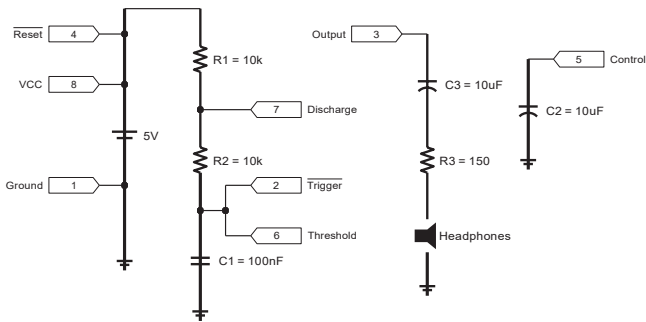
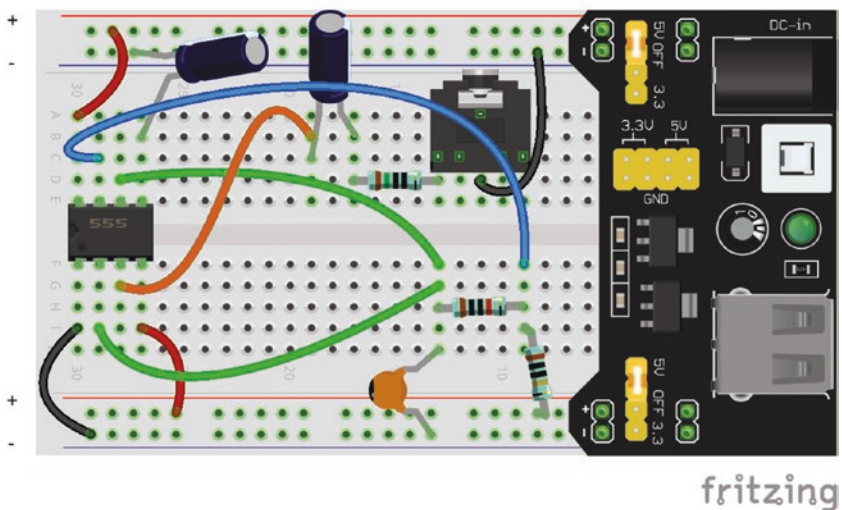

Figure 19-3. *Schematic for a Simple 555-Based Tone Generator*
Figure 19-4. Breadboard Layout for a 555-Based Tone Generator
In this section, we are going to modify the circuit in Figure 18-2 to add in a headphone output. Figure 19-3 shows the final circuit, and Figure 19-4 shows how to build it. This circuit has several changes to our original circuit that we will discuss in this section.
4. Given the circuit in Figure 19-3, what power would be delivered to your headphones if you were using an $8\ \Omega$ speaker instead of the $16\ \Omega$ speaker? What about a $100\ \Omega$ speaker?